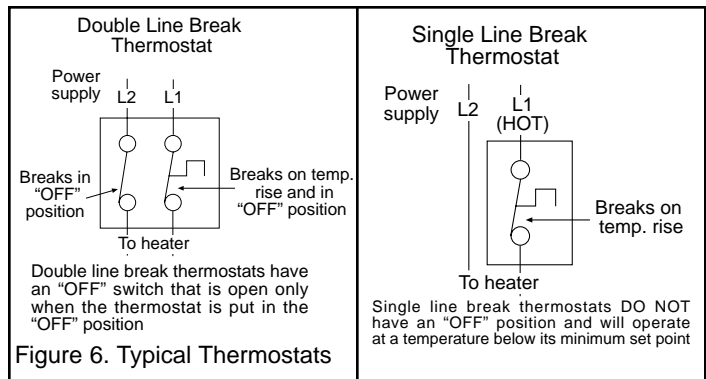

Figure 6. Typical Thermostats
11. Follow instructions accompanying thermostat for installation and wiring thermostat. See Figure 6 for typical thermostat wiring diagrams.